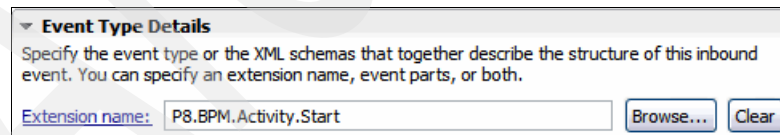

Figure 7-87 Event Type Details
3. Under Event Type Details (Figure 7-87), for Extension name, click **Browse**. Expand **BPMMonitoring** and select **P8.BPM.Activity.Start.cbe** and select **P8.BPM.Activity.Start**. Click **OK**.